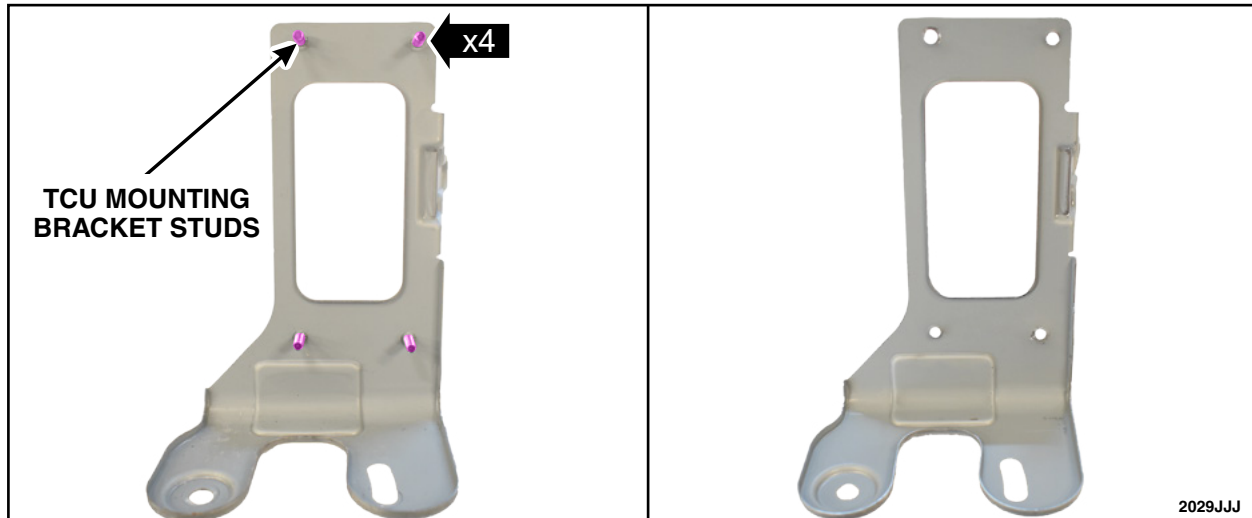

FIGURE 5
6. Remove the TCU mounting bracket studs. See Figure 5.